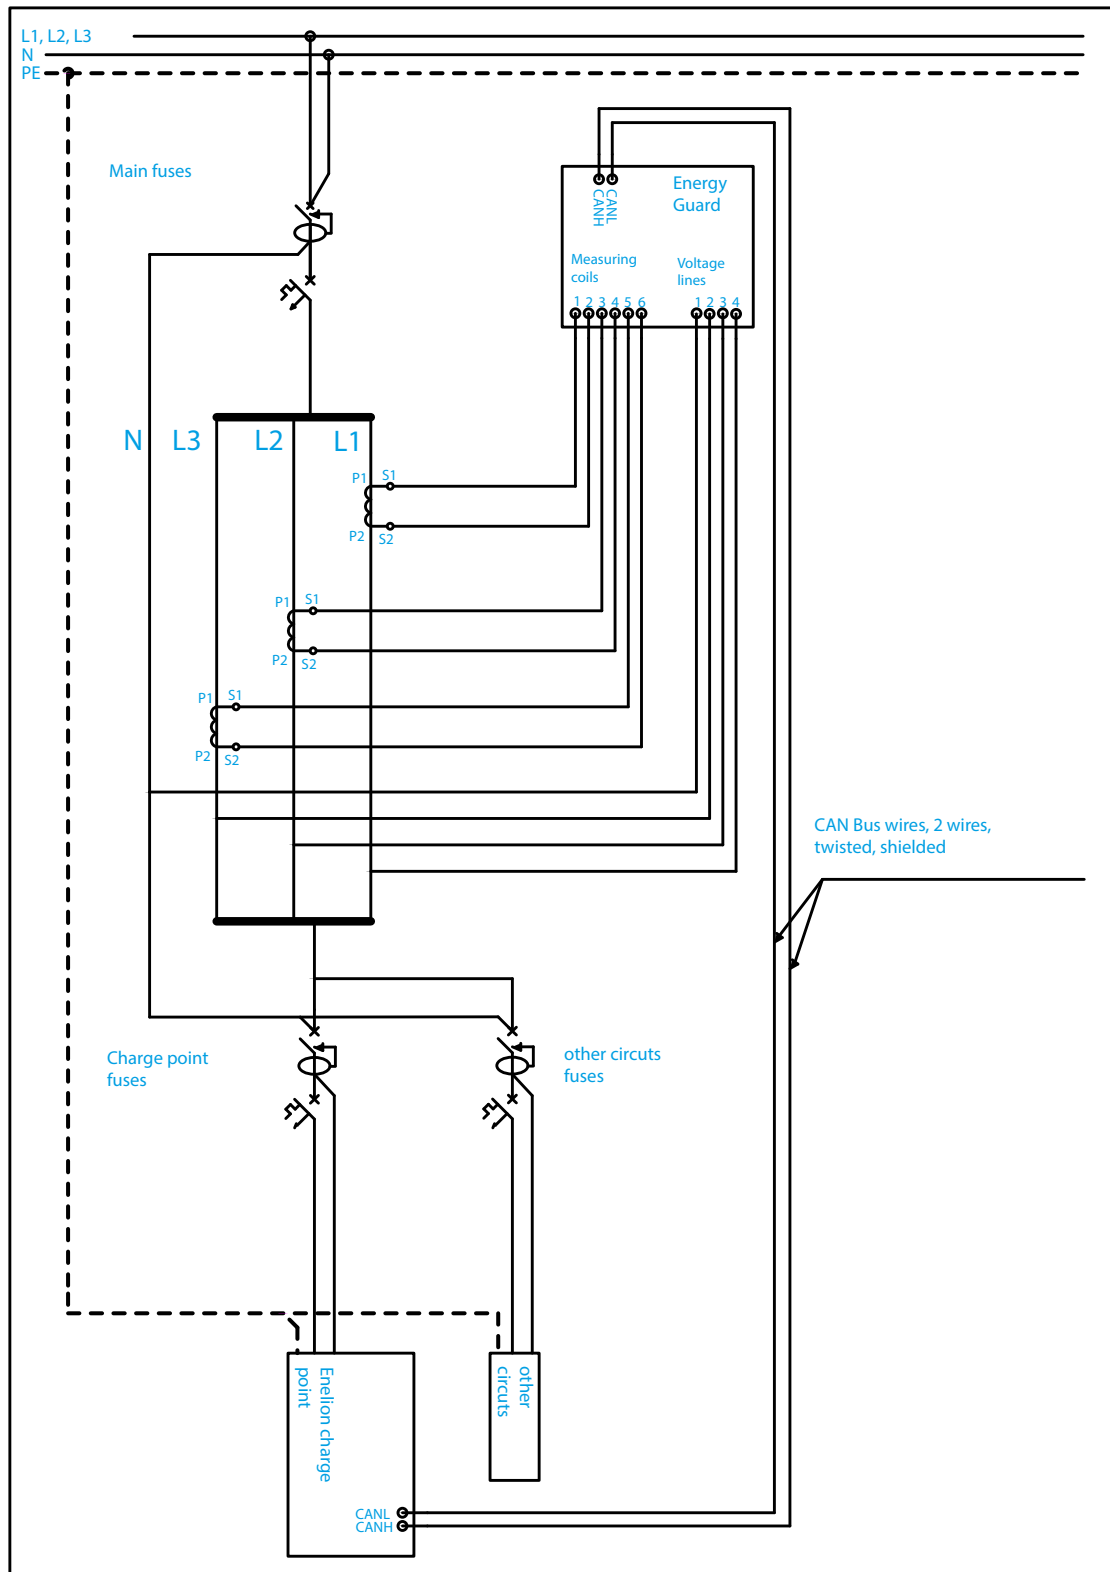
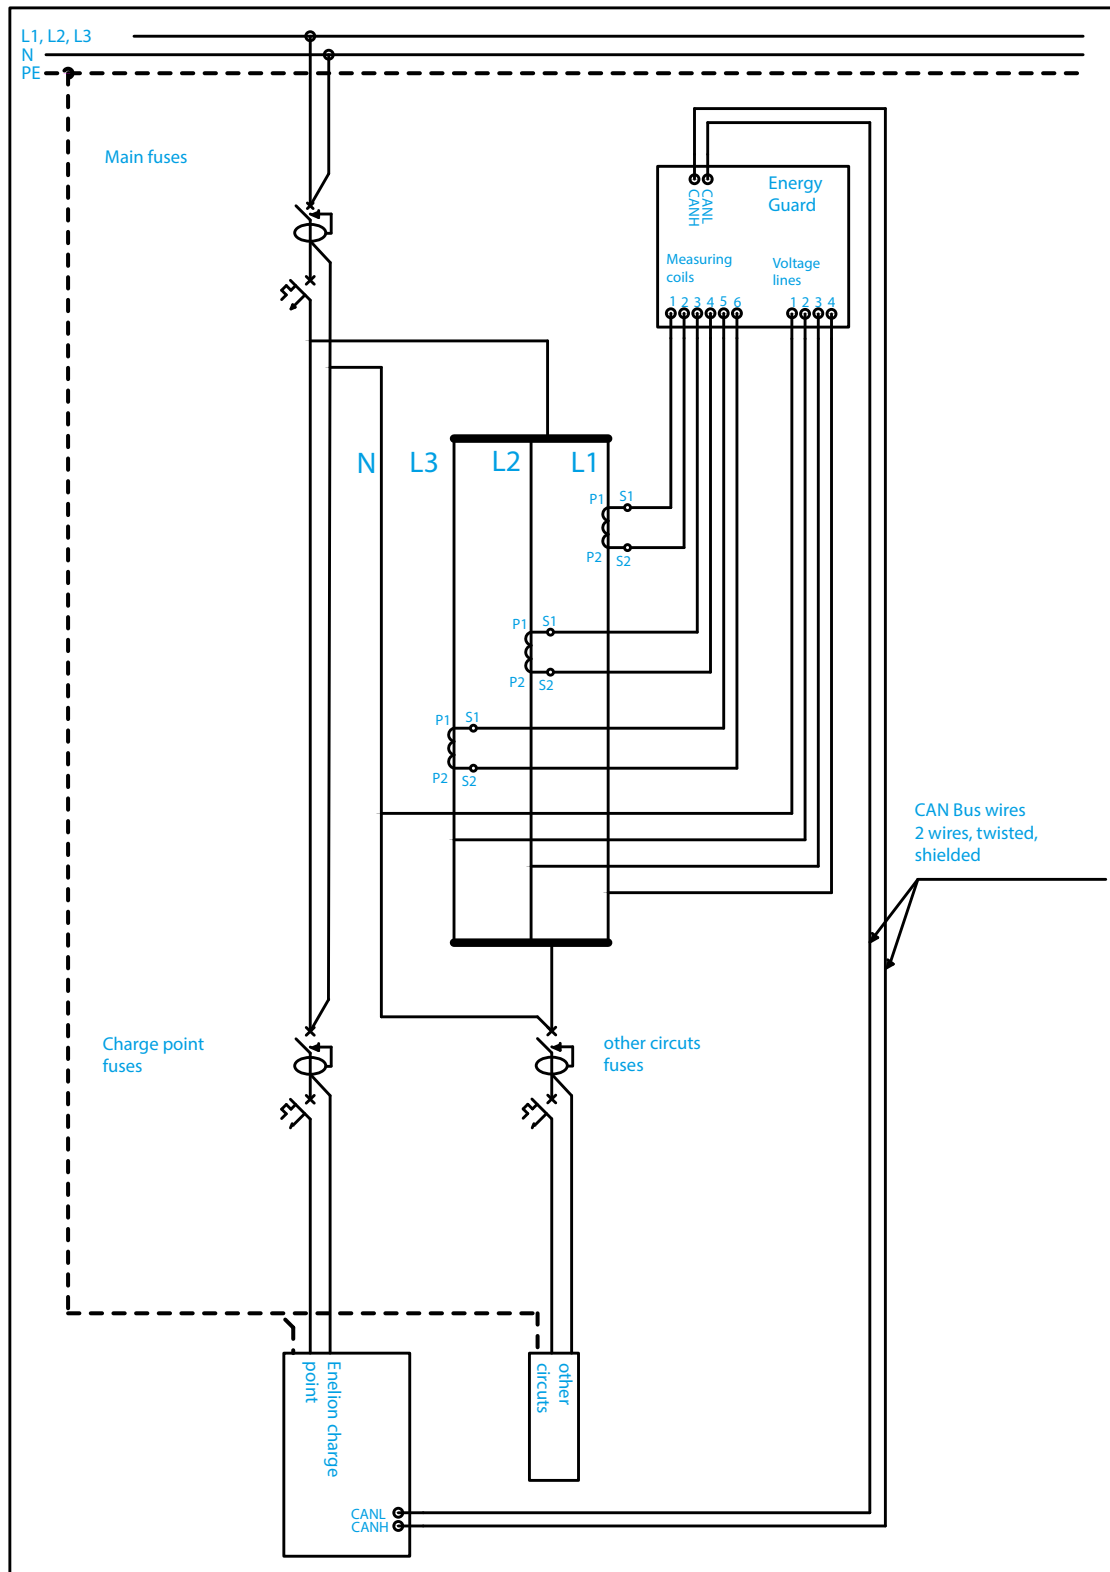

Fig. 3: Measurement of the entire connection with the charging terminals.
Fig. 4: Measurement of the load excluding charging terminals.
It is possible to choose the place of installation of measuring coils. They can be installed on lines feeding the building load [Fig.3] or together with the charging stations lines feeding the building load only [Fig.4].
1. „All powered equipment” (default option), i.e. measurement of the entire connection including charging stations [Fig. 3].
2. „Power equipment without charging network”, i.e. measurement of the connection without charging stations [Fig. 4].